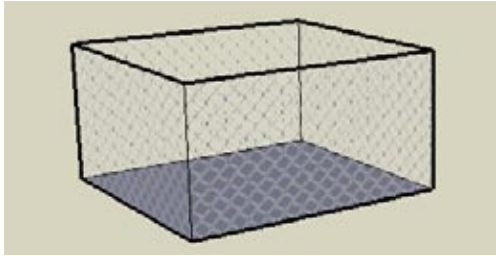

Figure 4-50
1. Start with a box and remove the top. Paint the four sides with a material from the Fencing material category (Figure 4-50). Many of these fencing materials have alpha transparency, which means the white background of each image is interpreted by SketchUp as transparent.